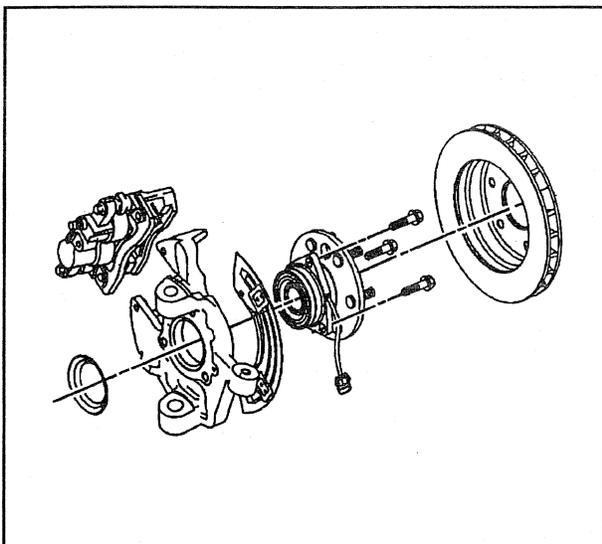

Figure 14—Front Wheel Speed Sensor (4WD)
**Remove or Disconnect (Figure 14)**
**Install or Connect (Figure 14)**